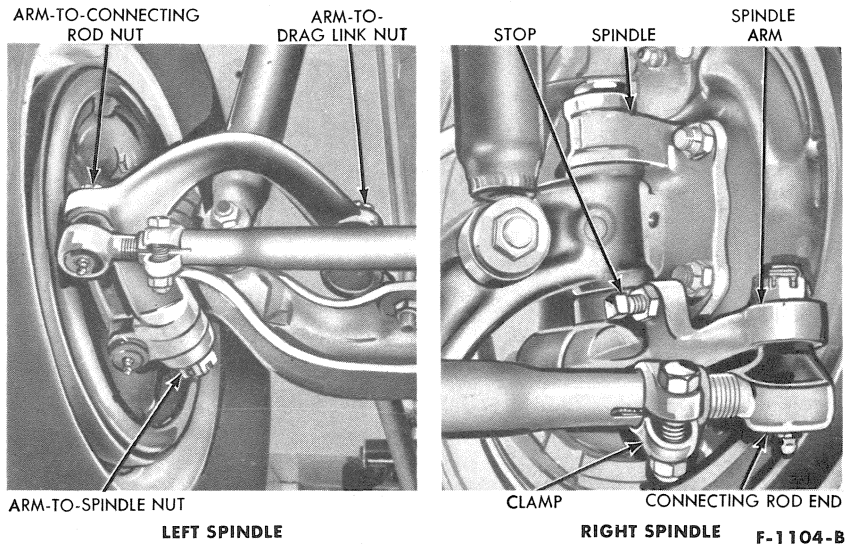

FIG. 6—Spindle Arm Connections
6. Assemble the ends of the spindle connecting rod (with seals) to the spindle arms, and install the attaching nuts and cotter pins (Fig. 6).
7. Connect the steering drag link to the left arm, and install the attaching nut and cotter pin (Fig. 6).
4. If the spindle is being replaced, remove the spindle arm-to-spindle attaching nut and cotter pin; then drive the spindle arm from the spindle with a soft hammer (Fig. 6). If the original spindle is to be installed, leave the arm assembled to the spindle, but disconnect the spindle arm from the connecting rod end using the tool shown in Fig. 5. On the left spindle, also disconnect the steering drag link from the spindle arm using the same tool.
If the original spindle is being installed with the arm assembled, connect the spindle arm to the connecting rod end. On a left spindle, also connect the steering drag link to the spindle arm (Fig. 6).
8. Adjust the toe-in, tighten the spindle connecting rod clamps, and adjust the right and left steering stops (Fig. 6) to specification (Part 3-7).